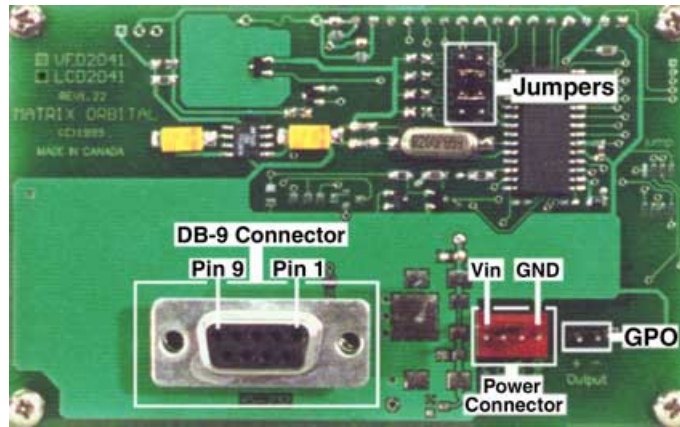

Figure 2-1 Electrical Connections
1. Refer to the diagram above and Figure 2-1 for the following steps.
Power is applied via pins 1 and 4 as shown in Figure 2-1. Power requirement for standard units is +5 VDC ± 0.25 V (units with the wide voltage range option require 8 – 15 VDC). Power may also be supplied via the RS-232 connector as described in section 2.2.2.